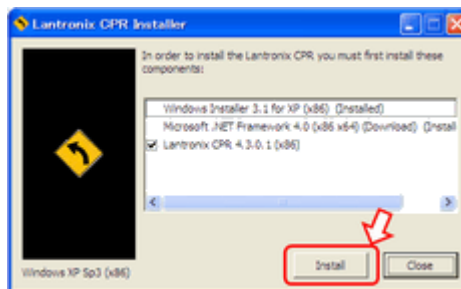

Fig. 3-1: CPR installer window
- (6) If a security alarm message is displayed while downloading via http, select to execute the installation, then continue.
- (7) Click "Install" when the CPR installer window is displayed (Fig. 3-1).